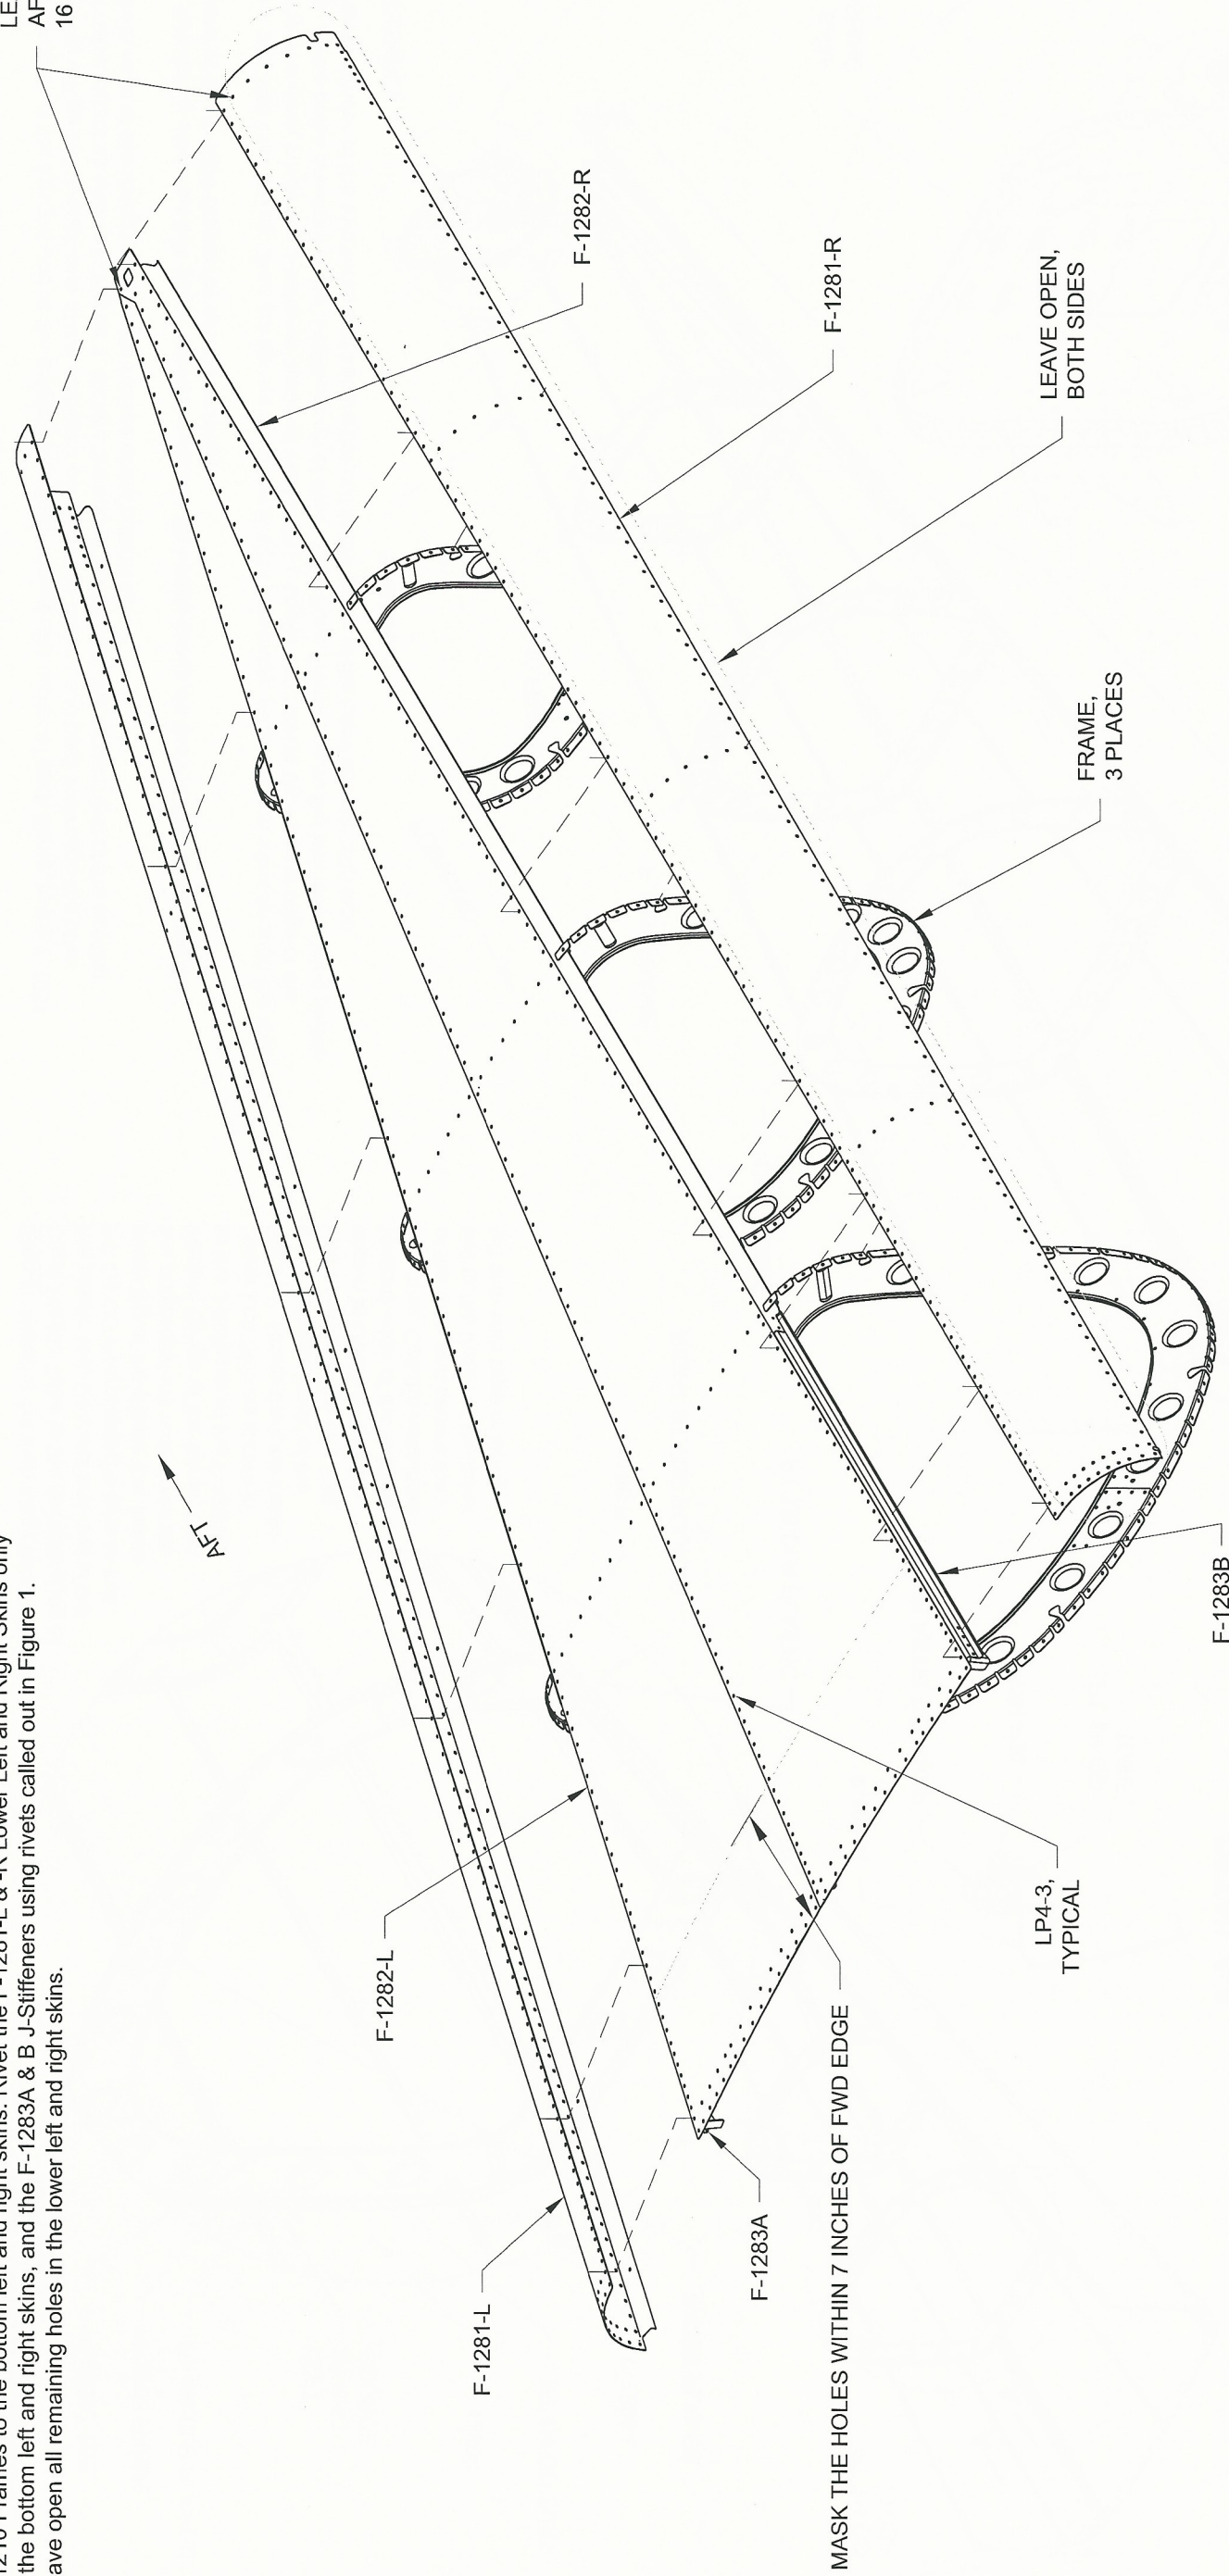

FIGURE 1:
Step 3: Rivet the F-1282-L & -R Bottom Left and Right Skins together. Rivet the F-1208, F-1209 and F-1210 Frames to the bottom left and right skins. Rivet the F-1281-L & -R Lower Left and Right Skins only to the bottom left and right skins, and the F-1283A & B J-Stiffeners using rivets called out in Figure 1. Leave open all remaining holes in the lower left and right skins.